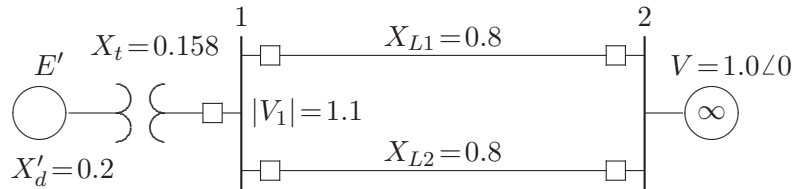

FIGURE 92
11.6. A 60-Hz synchronous generator has a transient reactance of 0.2 per unit and an inertia constant of 5.66 MJ/MVA. The generator is connected to an infinite bus through a transformer and a double circuit transmission line, as shown in Figure 92. Resistances are neglected and reactances are expressed on a common MVA base and are marked on the diagram. The generator is delivering a real power of 0.77 per unit to bus bar 1. Voltage magnitude at bus 1 is 1.1. The infinite bus voltage $V = 1.0\angle 0^\circ$ per unit. Determine the generator excitation voltage and obtain the swing equation as given by (pr11.36).